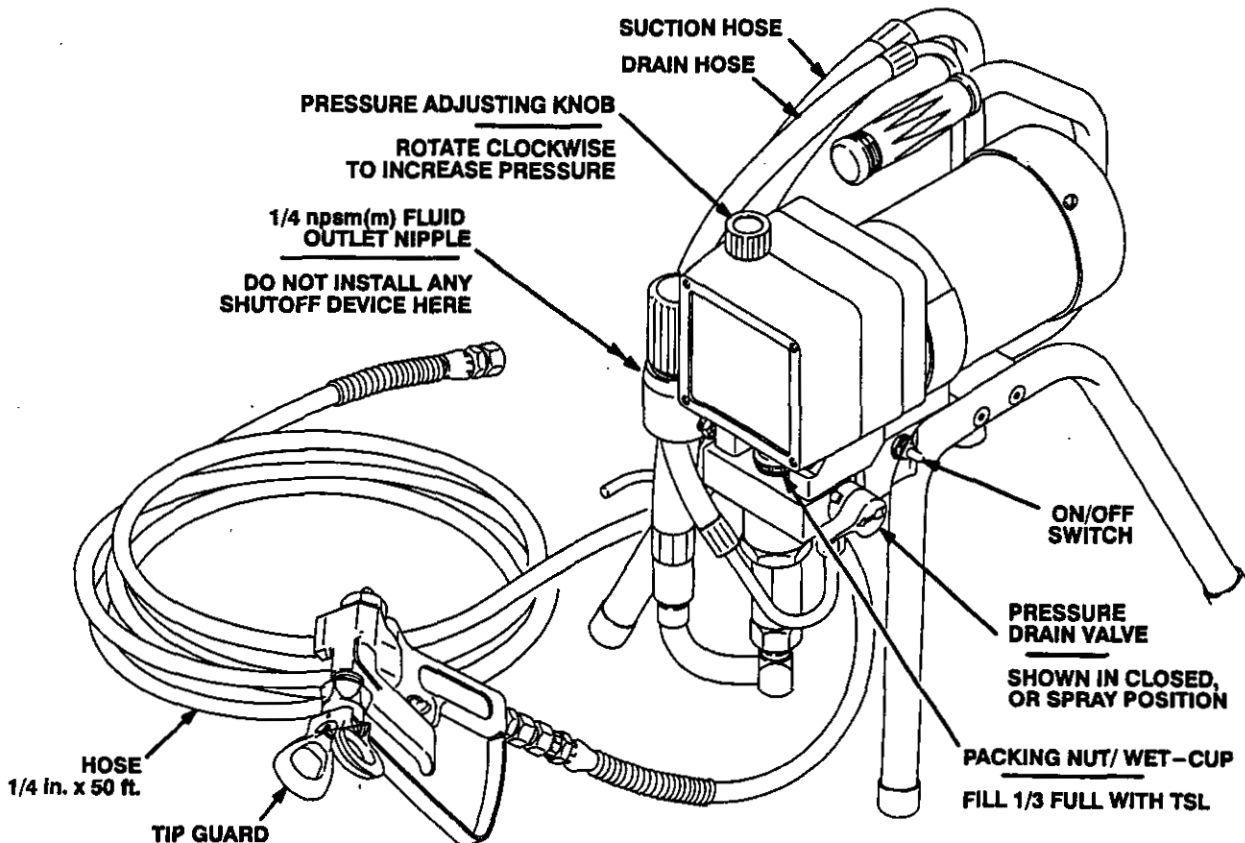

Fig 1
3. Never install any shutoff device between the pump and the hose. See Fig 1.